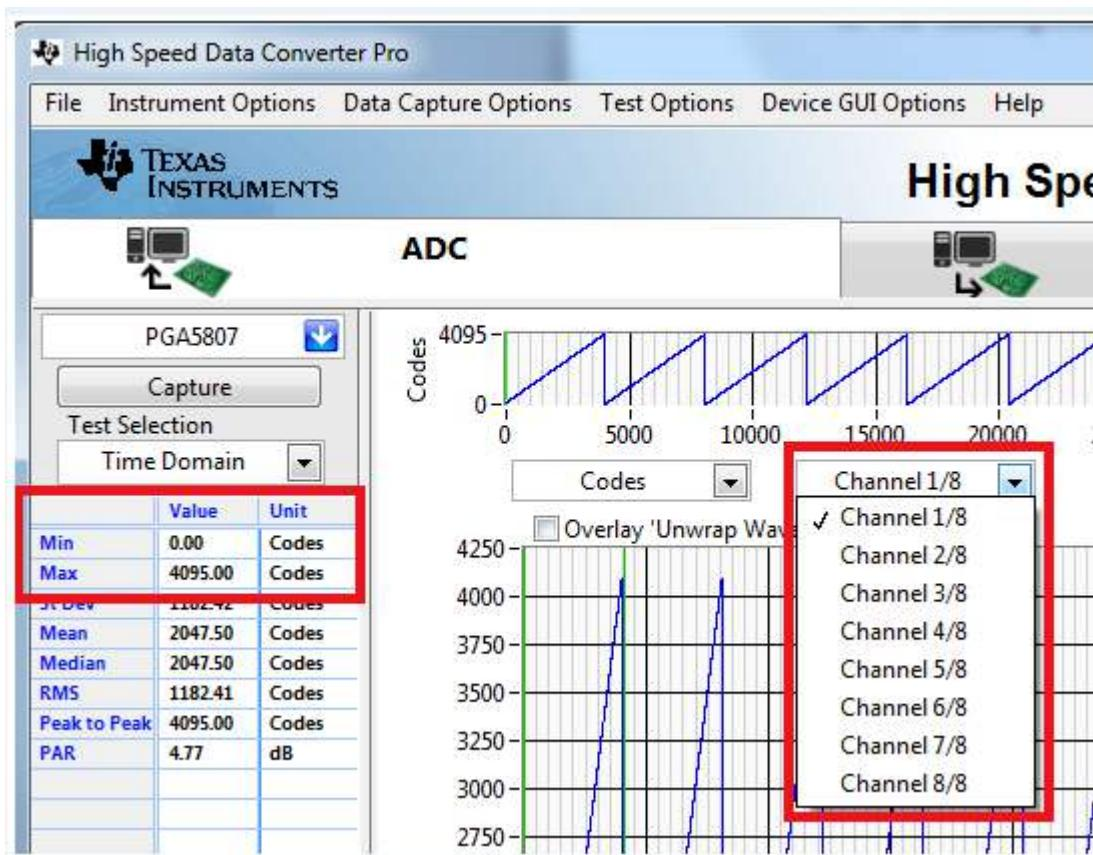

Figure 35. RAMP Capture by Channel
4. By default, *Channel 1/8* is the first channel displayed. Use the drop-down menu shown in Figure 35 to view all 8 channels and confirm that a saw tooth waveform has been captured. Also confirm, in the menu to the left side, that the min code is 0 and the max code is 4095, corresponding to a 12-bit ADC.